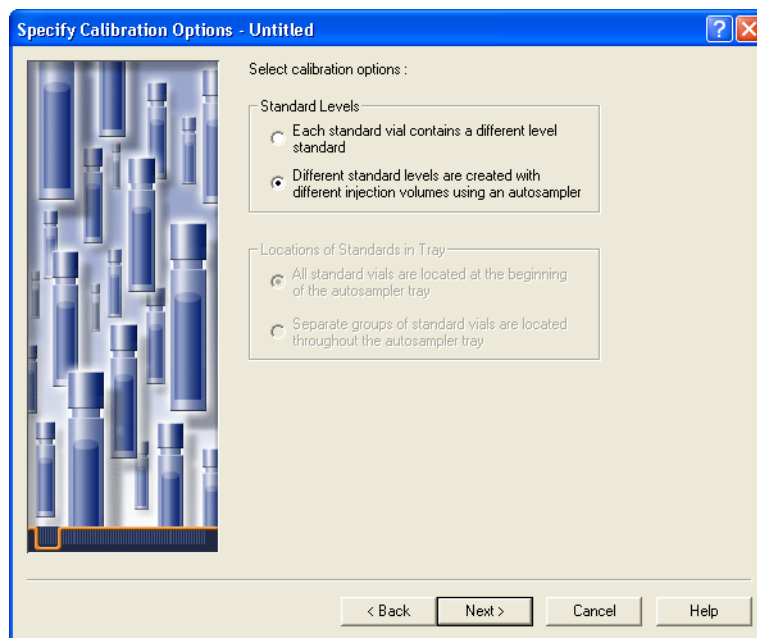

Figure 5-4 New Sample Set Method Wizard, Specify Calibration Options Page
4. Click **At start of sample set**, accept the default tray position (1), then click **Next**. The Specify Calibration Options page appears (Figure 5-4).